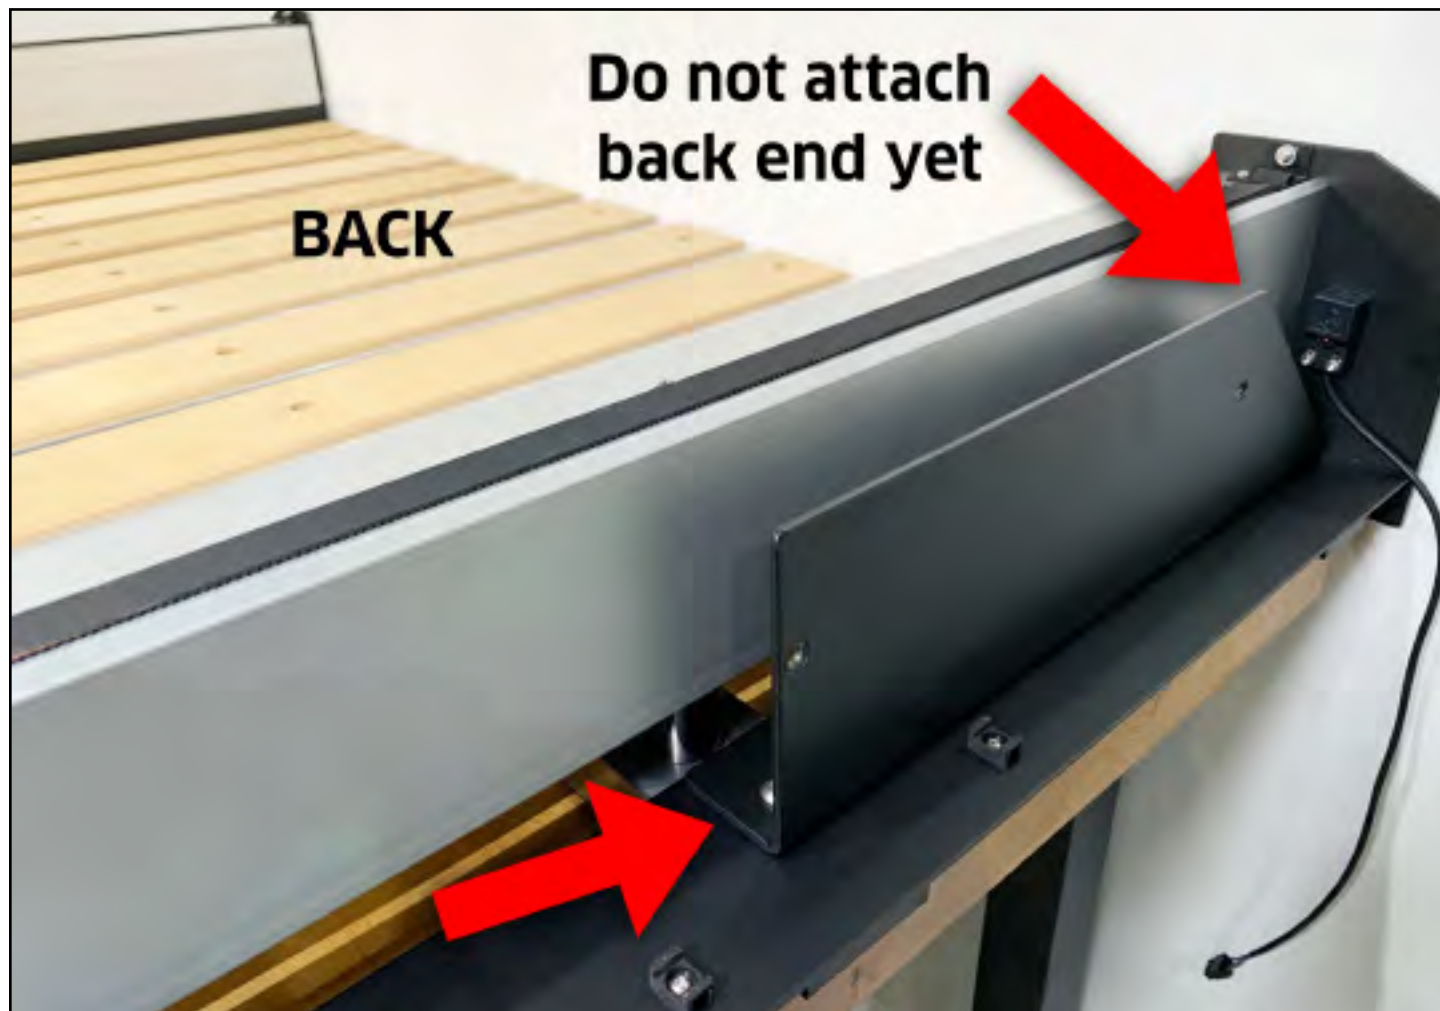

Figure 9-2
3. Position the controller mount so the M6 through-holes in the base of the mount are aligned with the two rear through-holes in the support panel. See **Fig. 9-2**.
4. Use 4mm hex key to insert one (1) M6×12mm BHCS to secure the front end of the base of the mount to the support panel.